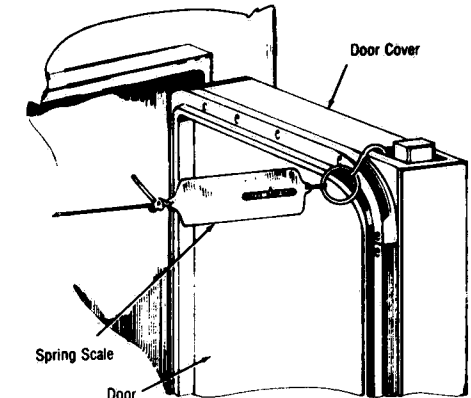

Figure 7-2. HINGE BINDING.
1. Attach a spring scale to the edge of the door on the side opposite the hinge (Fig. 7-2). If a force of more than 4 lbs is required to open or close the door, check the hinge system as follows: